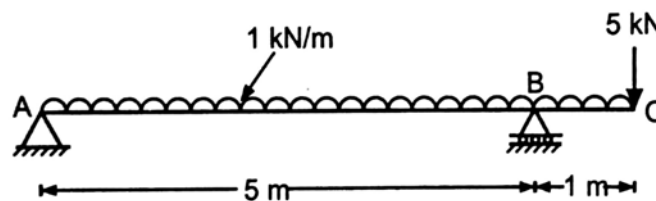

Fig. No.7
- a) Calculate the reactions of beam loaded as shown in fig. no.7 using analytical method.